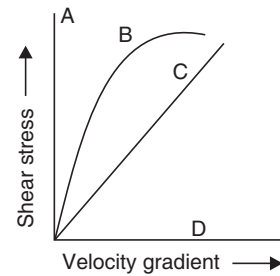

FIGURE 1.2
15. Four curves are shown in Fig. 1.2 with velocity gradient $\left(\frac{\partial u}{\partial y}\right)$ along x -axis and viscous shear stress (τ) along y -axis. Curve A corresponds to
16. Curve B in Fig. 1.2 corresponds to
17. Curve C in Fig. 1.2 corresponds to
18. Curve D in Fig. 1.2 corresponds to